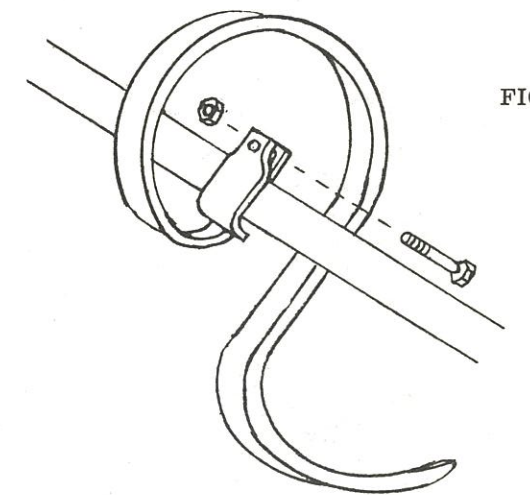

FIG. 3
- A. Fasten tine assemblies to $1/2 \times 2$ flat frame members as shown in Fig. 3 using $7/16'' \times 1\frac{1}{4}''$ bolt furnished with tine assembly. For proper tine spacing refer to tine spacing diagrams.